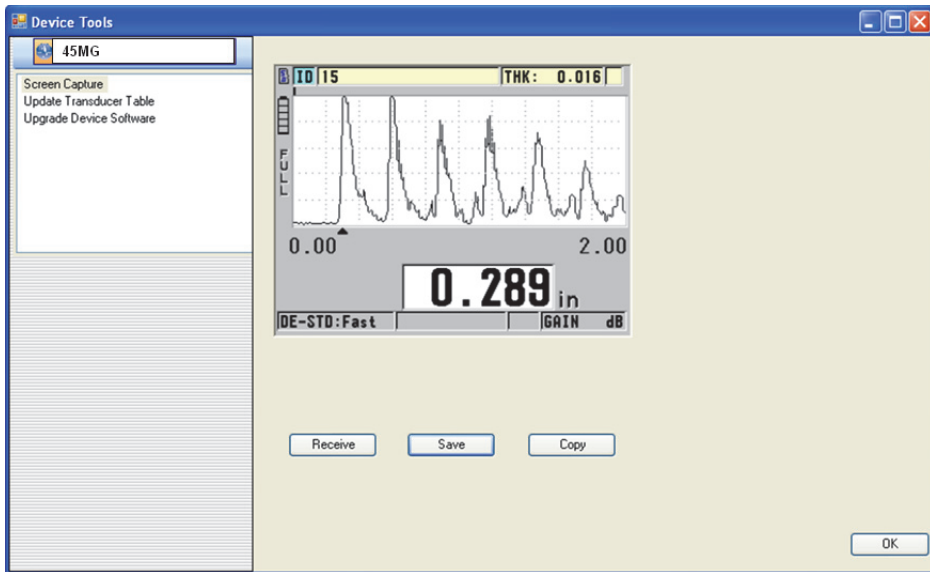

Figure 11-5 The Device Tools dialog box with a screen capture
- b) In the **Device Tools** dialog box (see Figure 11-5 on page 194), select **Screen Capture**, and then click **Receive**.